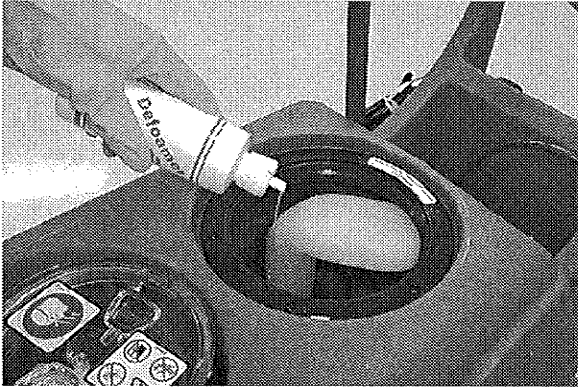

FIG. 27
8. While cleaning, periodically check for excessive foam in recovery tank. Pour a recommended foam control solution into the recovery tank if excessive foam appears. This will prevent vacuum motor damage (Figure 27).